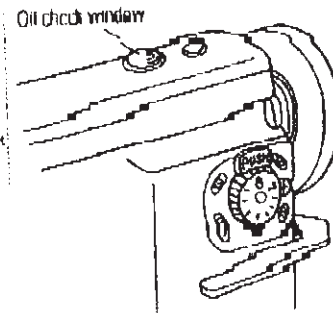

Fig.10
11. Condition of oil lubrication (Fig.10):